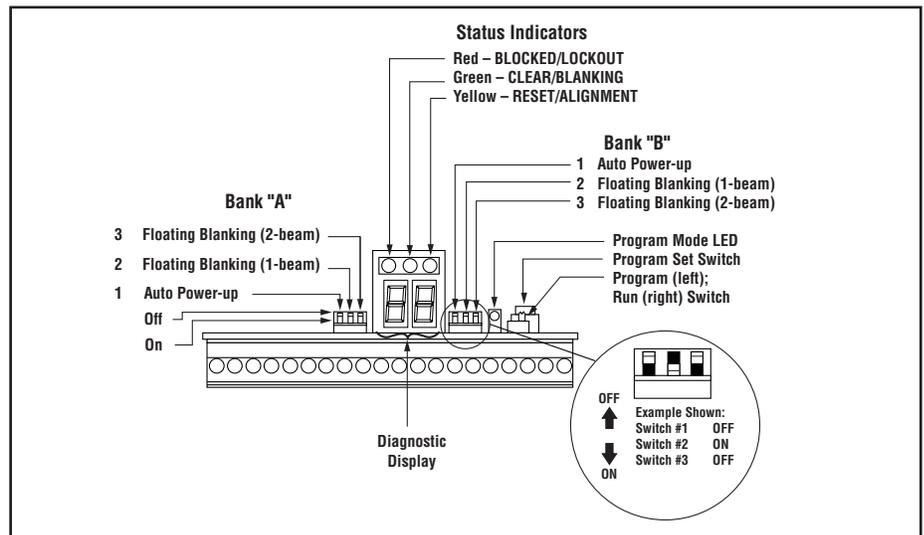

Figure 20. Controller board configuration DIP switches
The MICRO-SCREEN control module should be configured before initial checkout and use. Control module configuration is done at the two banks of DIP switches located along the edge of the controller board (see Figure 20). The controller will automatically sense the length of the emitter and receiver, and set its response time accordingly.
Because it has redundant microprocessors, the controller module has two identical DIP switch banks (bank A and bank B) which must be set identically. Failure to set both banks identically will cause a lockout condition when power is applied to the control box. **Power to the MICRO-SCREEN System must always be OFF when changing DIP switch settings.** Changing DIP switch settings with power ON will cause a lockout condition. See the inset in Figure 20 for DIP switch ON and OFF positions.
Locate the floating blanking (FB) configuration switches in banks A and B (see Figure 20). Set the switches identically at both banks. Be aware of the differences in minimum object sensitivity, penetration factor, and required light screen separation distance between the settings (see sections 2.1 and 3.2.1). Floating blanking causes the MICRO-SCREEN System to ignore objects of up to the sizes listed in the table below.
Locate the Auto Power-up (AP) configuration DIP switches (see Figure 20) in banks A and B. If Auto Power-up is ON and the defined area is clear when power is applied to the MICRO-SCREEN System, the controller will automatically reset after conducting and passing an internal system checkout. If the switches are OFF, this initial reset is manual (via the Key Reset switch). Regardless of the setting of the Auto Power-up switches, a Key Reset is always necessary to recover from an internal lockout condition. To select Auto Power-up, remove the protective coating on both switches and push them to the ON position. The switches must be set identically at both banks A and B.
Fixed blanking (if used) is programmed during the initial checkout procedure using the Program switches located on the controller board (as shown in Figure 20). See Section 3.5.5 for complete information.
- 4) **Fixed blanking (control module model USDINT-2T2 only).** The fixed blanking feature may be programmed if beams are blocked by one or more fixed objects. Fixed blanking requires an emitter/receiver pair with 16 or more beams (see page 59). **Fixed blanking is limited to 30% of the total number of beams up to a maximum of 12 beams (see chart below).** Contact factory Applications Department if your application requires fixed blanking of a greater number of beams. Programming of fixed blanking involves a simple “teaching” process; it is accomplished using the Diagnostic Display and the configuration (program) switches located on the controller board (Figure 20).
- 2) Make sure that Auto Power-up and Floating Blanking configuration switches (also located on the controller board, Figure 20) are all turned to OFF.
- 3) Make sure that the Program/Run switch (Figure 20) is in the RUN (right) position.
Move the Program/Run switch on the controller to the PROGRAM (left) position (Figure 20). The Program Mode LED will flash and the Diagnostic Display will indicate the total number of beams blocked.
When satisfied that the number of beams blocked is stable, push the Program switch push button on the controller (Figure 20) **for ½ to 2 seconds** and release. If the programming is accepted, the Program Mode LED will stop flashing and glow steadily. Programming will be rejected if the Program/Run switch is held depressed too long, or not long enough.